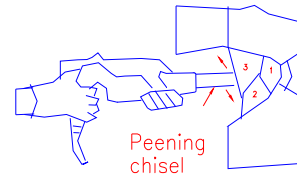

Fig. 10 Peening the second layer
2. Peen the second, third and last layers as shown in Fig. 10,11, and 12.